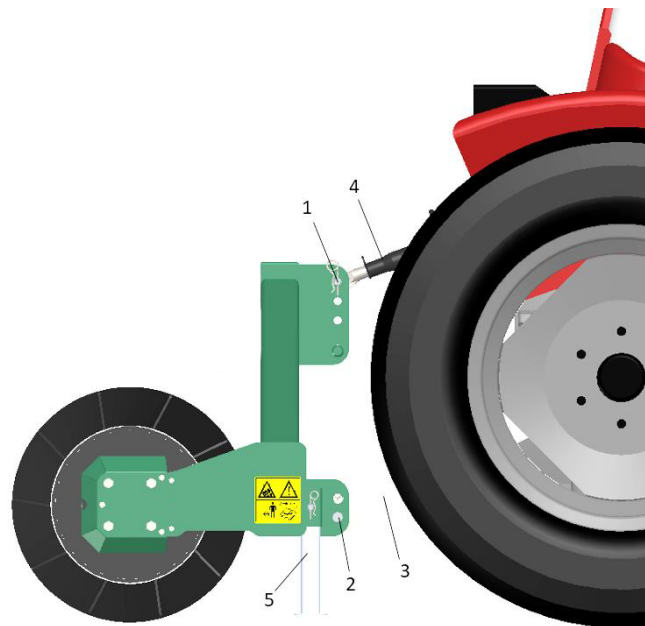

Fig. 3
1. Remove the 3-point pins (**1 and 2**) from the machine (**see Fig. 3**).
The machine should be detached in the following manner (see Fig. 3):